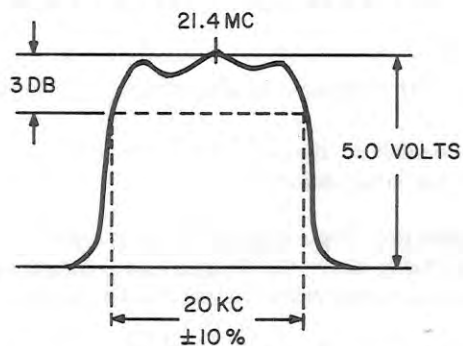

Figure 5-2. IF-220-20 AM Response
- d. Adjust L3 and L5 for maximum symmetrical response centered around 21.4 mc. This IF amplifier uses a crystal filter to establish the bandpass of the amplifier and, consequently, L3 and L5 will affect primarily the amplitude of the response and will have only a minor effect on the shape of the response. The AM response of the IF-220-20 IF amplifier is illustrated in Figure 5-2.